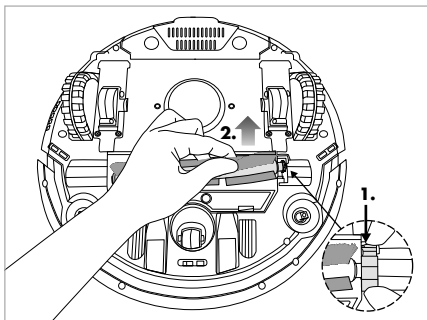
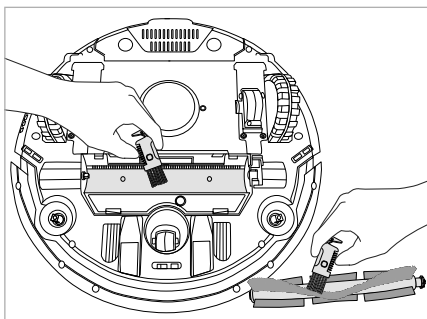

Fig. 16
Fig. 17
- 2) Remove the rotary brush lock 22. Grasp the rotary brush 31 on the right-hand side, and remove it from the appliance (see Fig. 16). Remove hair and dirt with the cleaning brush 11. If necessary, also clean the rotary brush compartment (see Fig. 17).